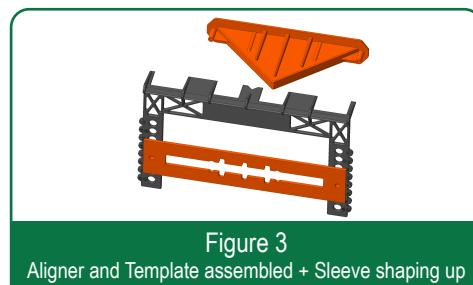

Figure 3
- Once the Template is assembled to the Aligner at the chosen height, and the Sleeve is inserted inside the Template, the device is ready for alignment and to be nailed on the wooden form. **Figures 3 & 4**